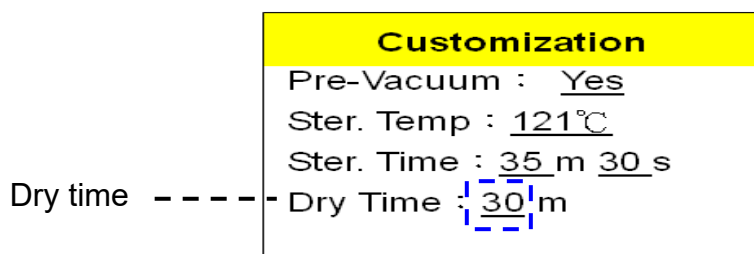

Figure 67
- G. Press  or  button to move the cursor as shown in Figure 67
- Press  button to store dry time parameter as shown in Figure 67.